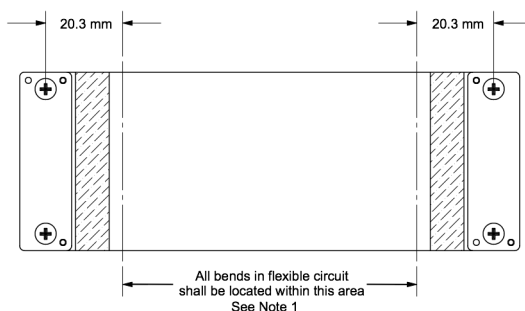

Figure 1-5. Flex Cable Diagram
- Bending the cable outside the area identified in Figure 1-5 (within 20.3 mm of connector plate centers).